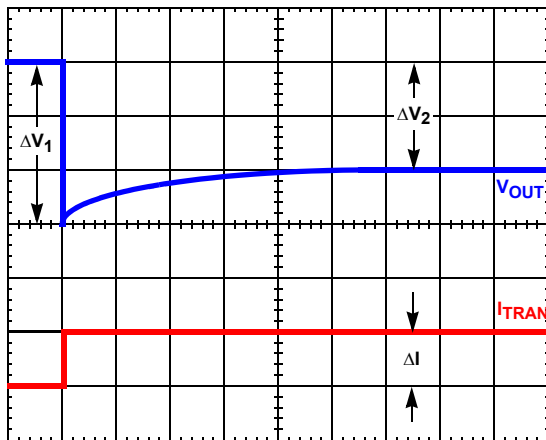

FIGURE 19. TIME CONSTANT MISMATCH BEHAVIOR
Due to errors in the inductance or DCR it may be necessary to adjust the value of R_1 to match the time constants correctly. The effects of time constant mismatch can be seen in the form of droop overshoot or undershoot during the initial load transient spike, as shown in Figure 19. Follow the steps outlined in the following to ensure the R-C and inductor L/DCR time constants are matched accurately.
2. Record ΔV_1 and ΔV_2 as shown in Figure 19.